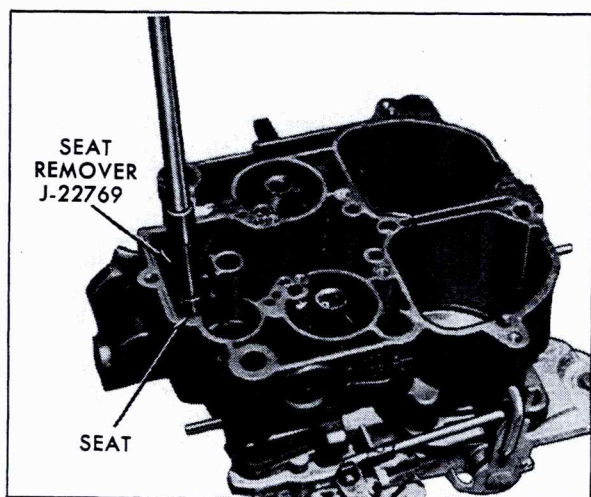

Fig. 6-71 Removing Needle Valve Seat
10. Remove float assembly and inlet needle by pulling up on retaining hinge pin. Do not remove inlet needle seat unless it is damaged, in which case it and fuel needle must be replaced as an assembly. If needle seat is to be removed, use Fuel Inlet Needle Seat Remover, J-22769, Fig. 6-71.
11. If fuel inlet needle seat was removed, use new needle seat gasket and position new seat on Fuel Inlet Needle Seat Remover and Installer, J-22769. Carefully screw needle seat into float bowl, Fig. 6-71.